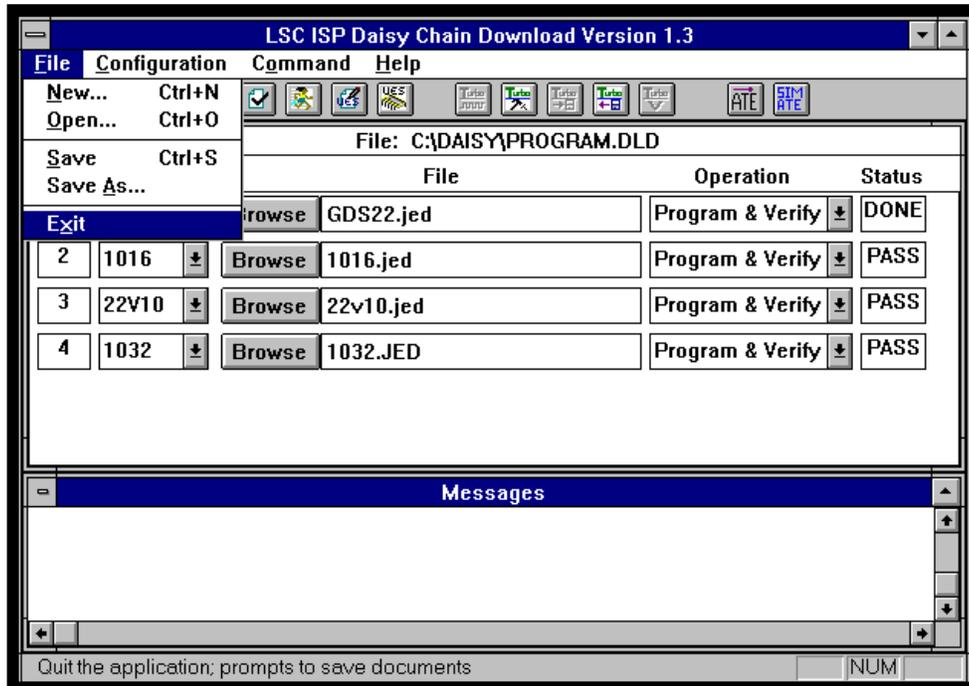
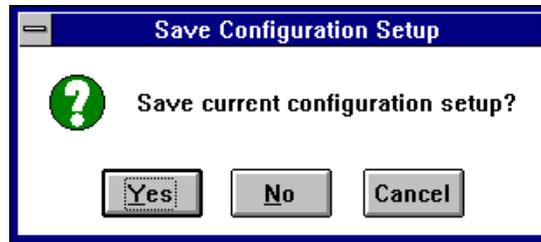

Figure 3-40. **File** ⇒ **Exit** Menu Option
Figure 3-41. Save Configuration Setup Dialog Box
1. Select **File** ⇒ **Exit** from the ISP Daisy Chain Download menu (Figure 3-40). The Save Configuration Setup dialog box appears (Figure 3-41), if you have not previously saved this file.